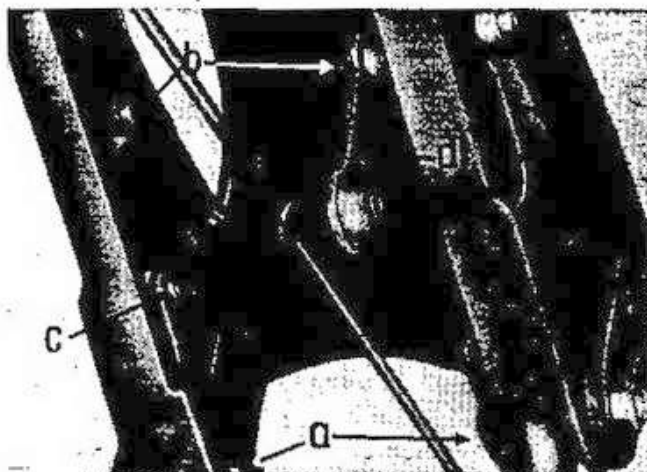

Fig. 73 Fixture of the swinging link rubber bands and bearing
- Remove the M 8 x 60 hexagonal screw "a", fig. 73, on the swinging link bearing from the fork or tap out with a punch.
- Unscrew the spring-stop-end nut and remove the M 6 x 45 hexagonal screw "b" on the counter support bearing "d" from the left hand side of the forks (see fig. 73). Withdraw spacer sleeve and the counter support link.